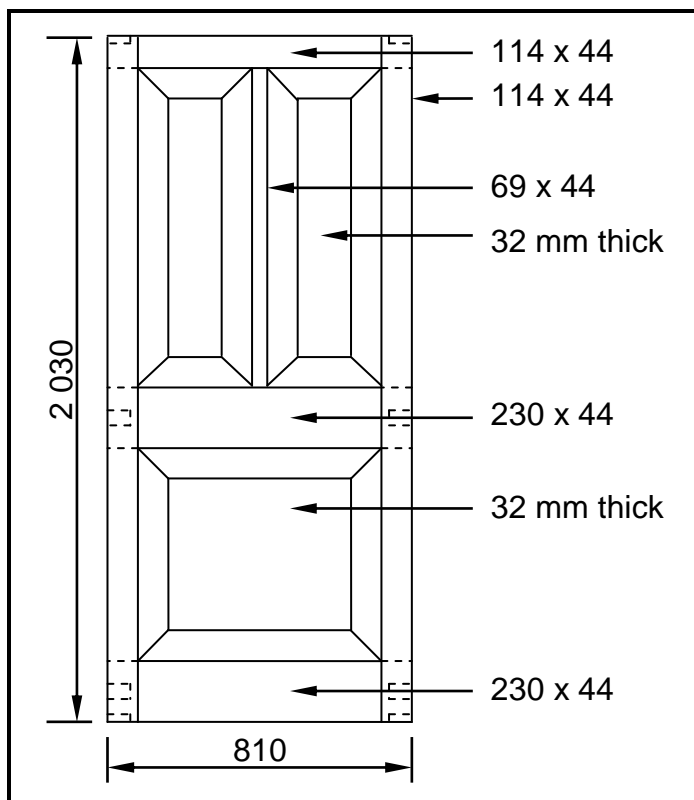

FIGURE 4.1
- 4.1 FIGURE 4.1 below shows the front view of a three-panel door. Study the drawing and complete the incomplete cutting list below. Write only the answer next to the question number (4.1.1–4.1.7) in the ANSWER BOOK.